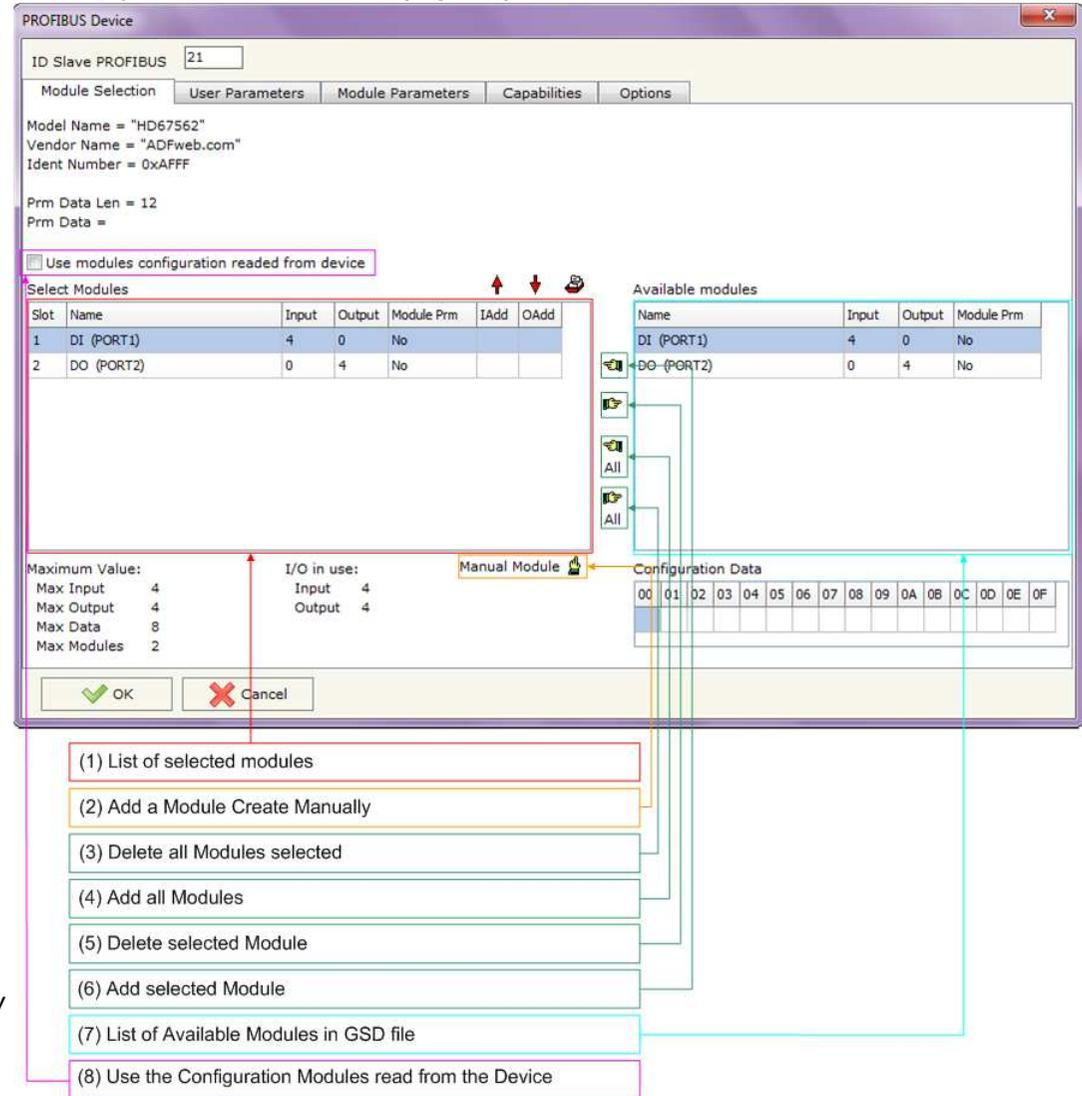
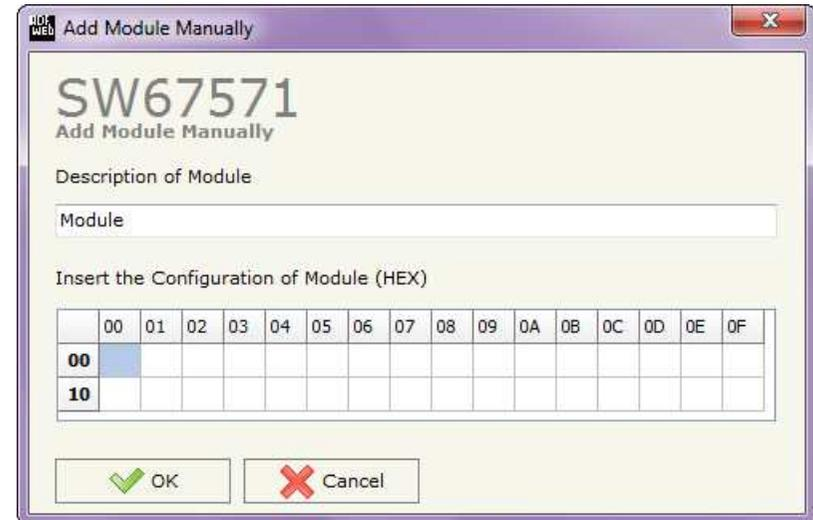

Figure 11: “PROFIBUS Device – Module Selection” window
Figure 12: "Add/Modify Module Manually" window
The section “**Module Selection**” is used to select which Modules are present in the Slave (Fig. 11).
- Check the list of the Modules selected (“Select Modules”) (Fig. 11, point (1)) and the list of Modules Available in GSD file (“Available Modules”) (Fig. 11, point (7));
- Add a Module from the list of GSD file (Fig. 11, point (6));
- Remove a Module from selected list (Fig. 11, point (5));
- Add all Modules present in the GSD file (Fig. 11, point (4));
- Remove all Modules from selected list (Fig. 11, point (3));
- Insert a Module not present in the GSD file (“**Manual Module**”) (Fig. 11 point (2)). For more info see the section “Manual Module” below;
- Enable the read of configuration directly from the PROFIBUS Slave (“**Use module configuration readed from device**”) (Fig 11, point (8)). If this option is enable the configuration of the modules is discarded and the device read the correct configuration directly to the PROFIBUS slave.
By pressing the **Manual Module** button from the "PROFIBUS Device" window (Fig. 11) the "Add Module Manually" window appears (Fig. 12).
To modify a Module inserted manually, is necessary to do a double click on the module to change in the "Select Module" list (Fig. 11, point (1)). It is possible to change only the module inserted manually.